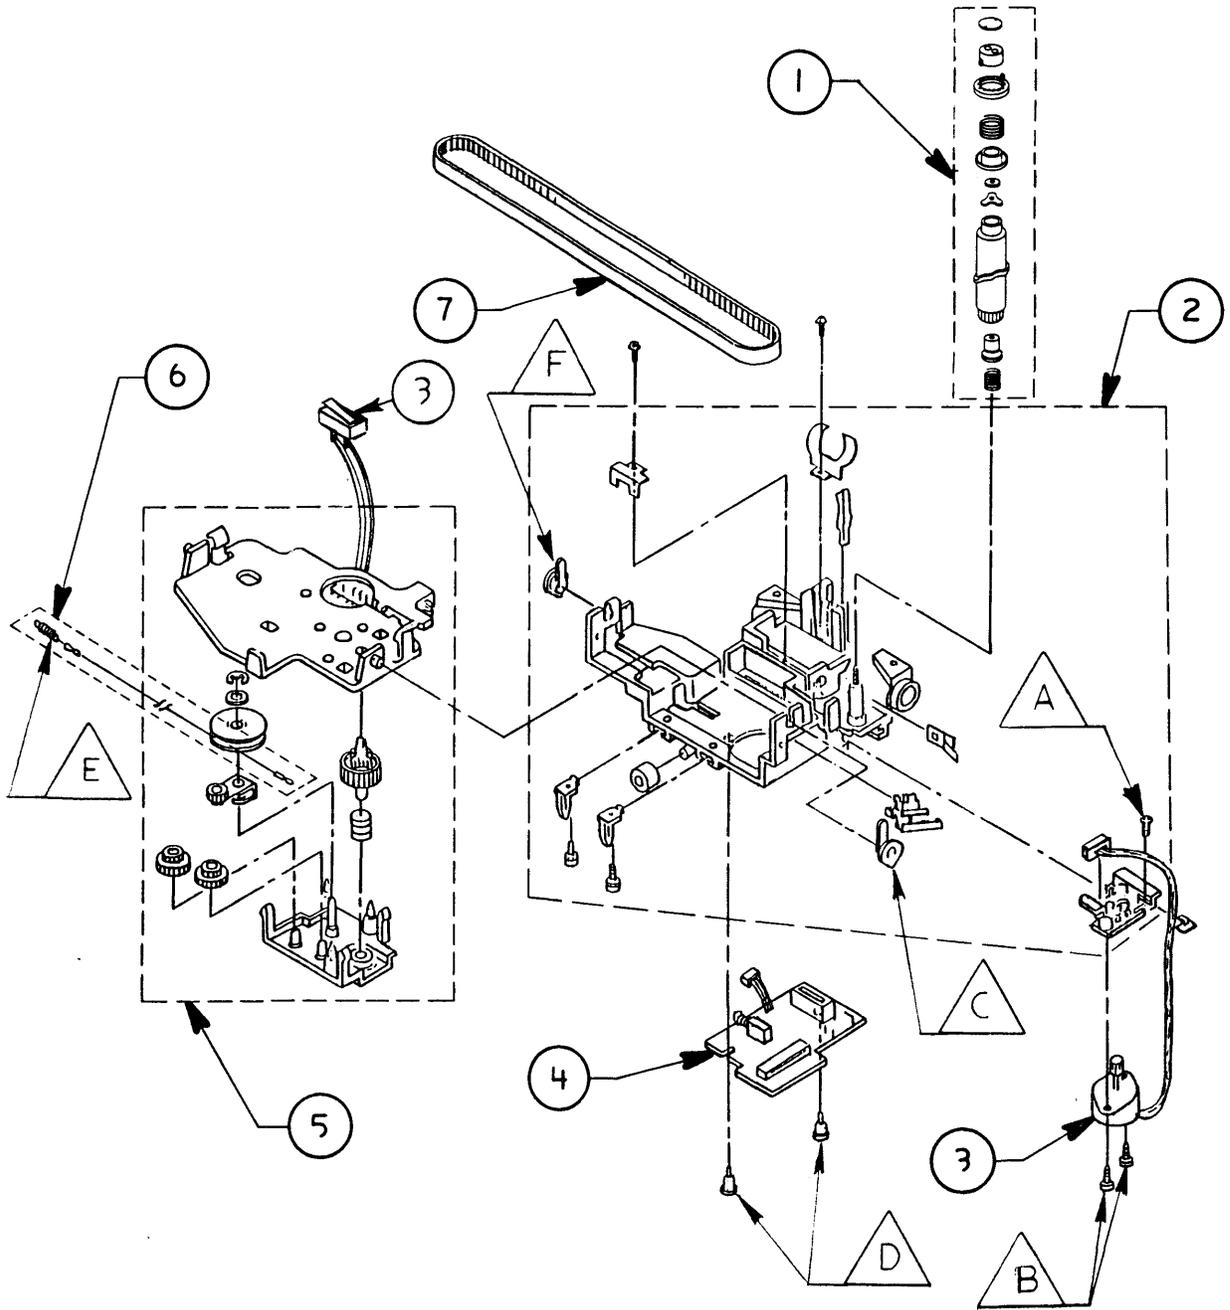

FIGURE 5
□ **CARRIER (Figure 5)**
The following screws, e-clips, etc., are used in the parts shown in Figure 5: